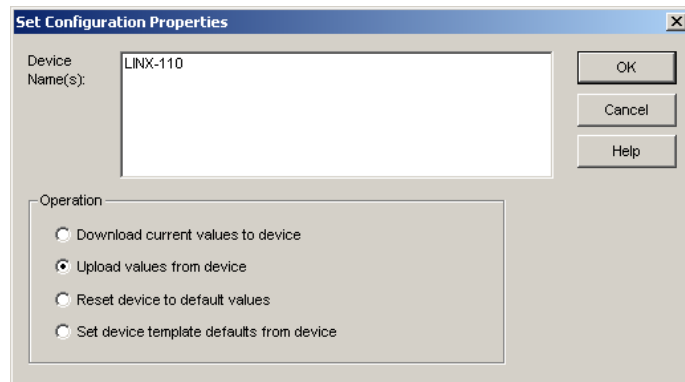

Figure 117: Set Configuration Properties in LonMaker TE.
- This opens the dialog shown in Figure 117.